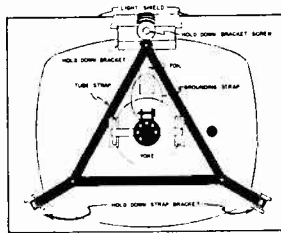

FIGURE 4
3. Remove hold down bracket screw located top center of picture tube. Unhook both lower hold down strap brackets from slots in light shield and remove straps. See Figure 4.